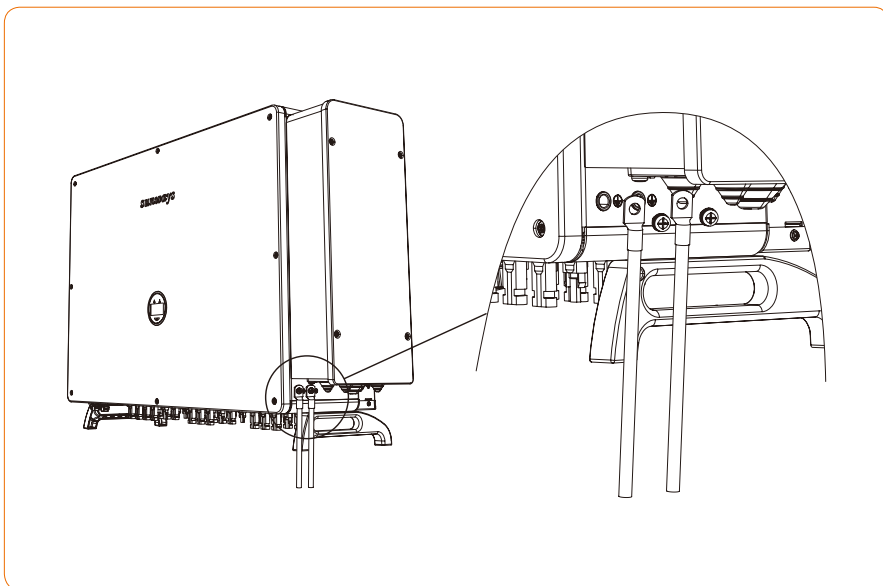

Figure 4-9 Grounding terminal connection
- ① The external grounding terminal is located in the lower right side of the inverter.
- ② Fix the grounding terminal to the PE wire with a proper tool and lock the grounding terminal to the grounding hole in the lower right side of the inverter, as shown in Figure 4-9.